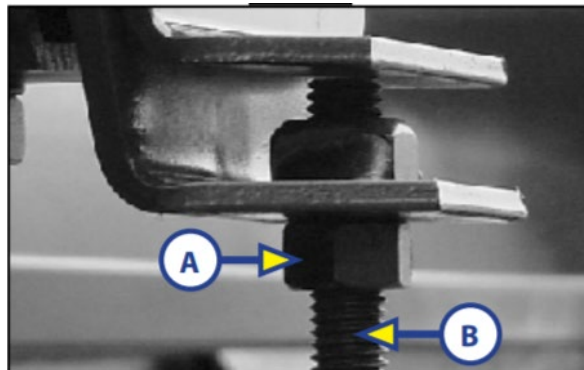

Figure 47. Vertical adjustment lock nut (A) and bolt (B).
5. Referring to Figure 47 for the following adjustments, raise the room using the jack to ensure it lifts off of the vertical adjustment bolt (B).
6. Loosen jam nut (A).